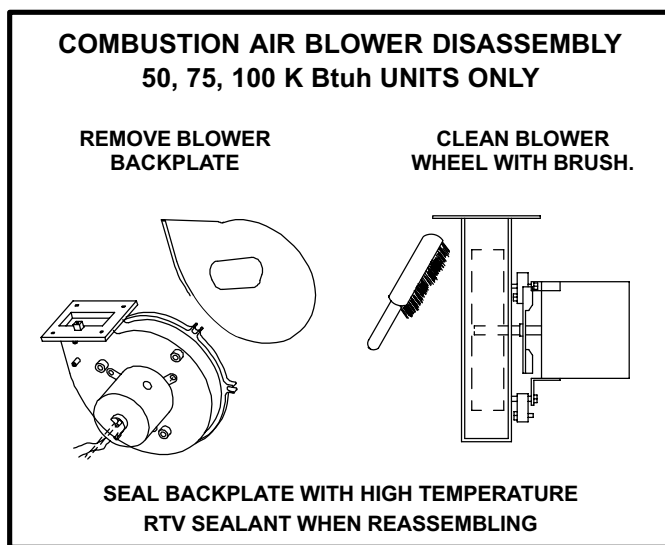

FIGURE 39
- 4- If blower can be disassembled (50,000, 75,000, and 100,000 Btuh heat exchangers only), remove blower backplate as shown in figure 39. Clean blower blades with a small brush and wipe off any dust from the housing (see figure 39). Clean any accumulated dust from inside the flue box cover.